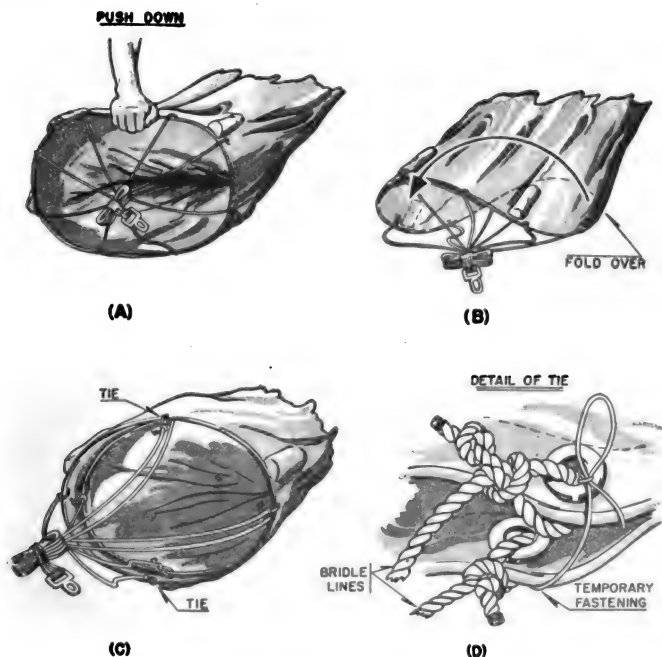

Figure 59.—Loading the tow target container Mark I.
Next, attach the bungee cords to the pins and bring each end of the line out over the "X" formed by the crossed bungee cords. Now the target must be folded and packed so as to fit between the door of the container and the bungee cords. You must take great care to fold the target properly. Follow figures 59, 60, and 61 closely.
First, stretch the target to its full length on a flat surface and extend the bridle to its full length, with the bridle lines taught and untangled. Secure the bridle lines as in figure 59 (A) and push down on the bridle ring, bringing it down flat on the deck in the shape of a figure 8. (Figure 59 B.) Hold the ring where the loops come together and fold one loop over the other, tying them loosely as pictured in figure 59 (C) and (D).